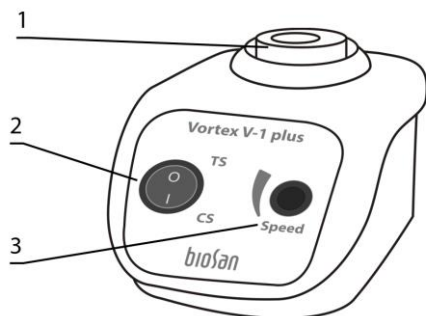

Figure 1. V-1 plus, front view
5.1.2. Gently holding a tube by its upper part, press the lower part to the vortex head (fig. 1/1). During rotation of the rotor, control the intensity of shaking by varying applied pressure.
5.1.3.1 Turn the **TS/CS** switch (fig. 1/2) to position **CS**.
5.1.3.2 Set the required speed by turning the **Speed** knob (fig. 1/3).
5.1.4.1 Turn the **TS/CS** switch (fig. 1/2) to position **TS**.
5.1.4.2 Set the required speed by turning the **Speed** knob (fig. 1/3).
5.1.4.3 Push the tube on the vortex head (fig. 1/1) and hold for vortexing. Rotor stops when the tube is raised.
5.2.4.1 Turn the **QS/CS** switch (fig. 1/4) to position **CS**.
5.2.4.2 Set the required speed by turning the **Speed** knob (fig. 1/6).
5.2.5.1 Turn the **QS/CS** switch (fig. 1/4) to position **QS**.
5.2.5.2 Set the required speed by turning the **Speed** knob (fig. 1/6).
5.2.5.3 Position the tube on the vortex head, press and hold **QS** button (fig. 1/5) for vortexing.